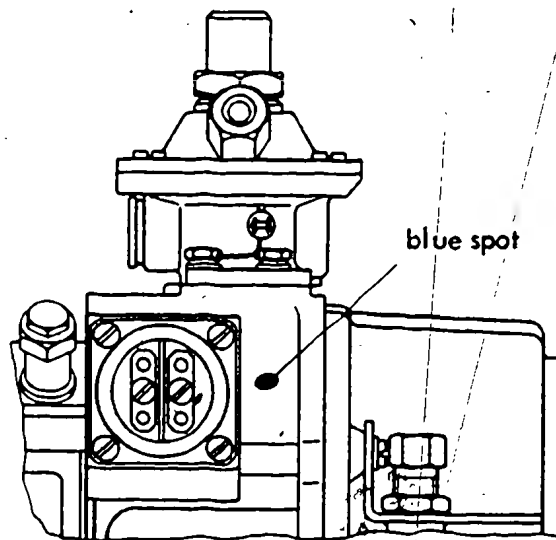

Fig. 1
As from FD 331 a soldered rocker arm (item 3/3 on microfiche EP...) was introduced with these injection-pump assemblies, the bolt having previously been riveted. Inadequate soldering can result in the bolt working loose and falling out, thus impairing the performance of the governor. The vast majority of these injection-pump assemblies have already been dealt with in one campaign and the rocker arm was changed. To denote this a blue spot was made (fig. 1) next to the solenoid fitted on the side of the governor. The rocker arms were also given a blue spot once they had been checked.
15. To show that a new rocker arm has been fitted be sure to make the blue spot marking next to the solenoid (fig. 1).